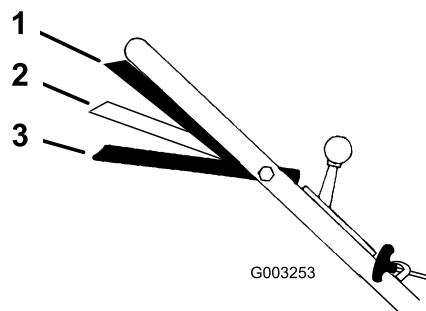

Figure 17
1. Move the ground-speed control to the Neutral (N) position.
3. Squeeze the blade-control bar against the handle to the Run/Drive position (Figure 17).
Note: Do not shift speeds while you squeeze the blade-control bar against the handle in the Run/Drive position; this can damage the transmission. Move the blade-control bar to the Run/Shift position (Figure 17) when you change the ground speed.